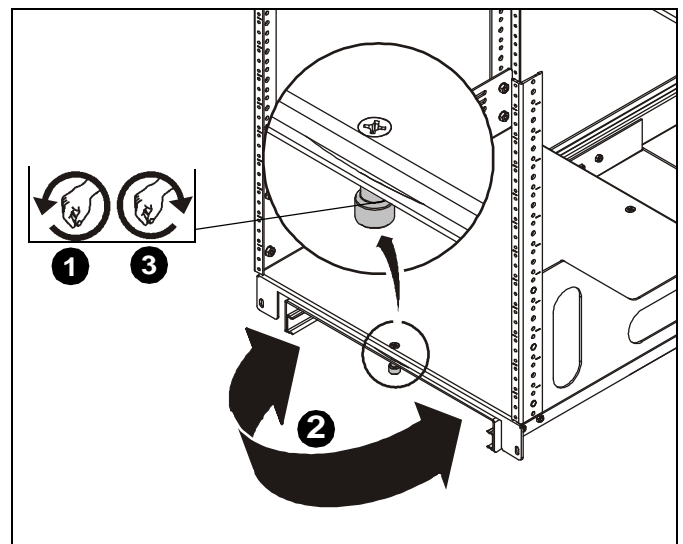

Figure 4
1. Unlock the thumbscrew in the ROTR front. (See Figure 4)
3. Swivel ROTR to front and tighten thumbscrew to keep from swiveling. (See Figure 4)